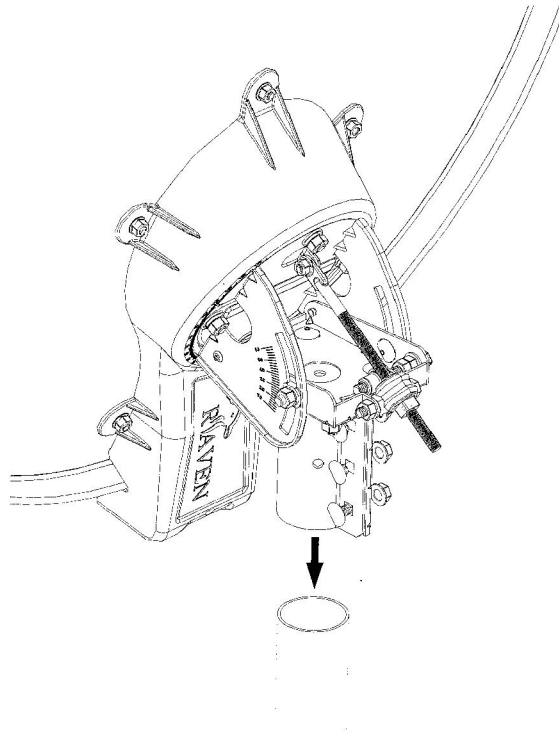

Figure 13
Step 4: Taking heed of the safety instructions mentioned at the start of this instruction manual, carry the Antenna pre-assembly to the Mount Tube location. Slide the Tube Canister onto the top of the Mount Tube **(fig 13)**. Secure in place using three 5/16" x 1" UNC Carriage Bolts and three 5/16" UNC Serrated Flange Nuts in each of the holes in the Tube Canister flanges, then hand-tighten the Flange Nuts.